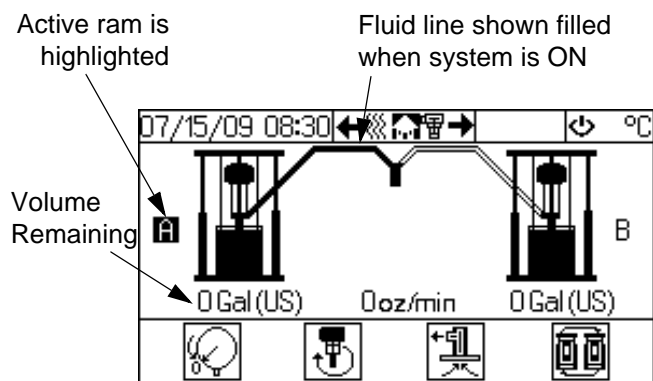

FIG. 10: Ram Operation Screen
5. See FIG. 10. The Ram Operation screen displays which ram (A or B) is active and how much volume is remaining in each drum. The fluid line is shown filled indicating the system is on.